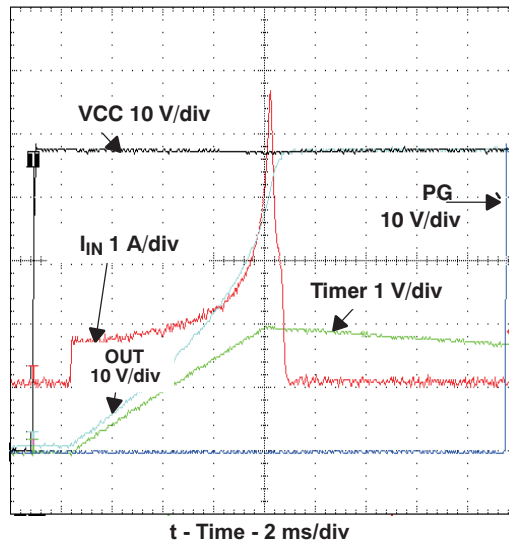
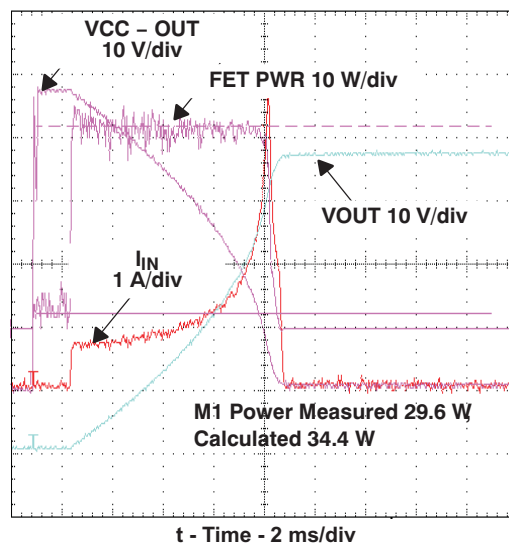
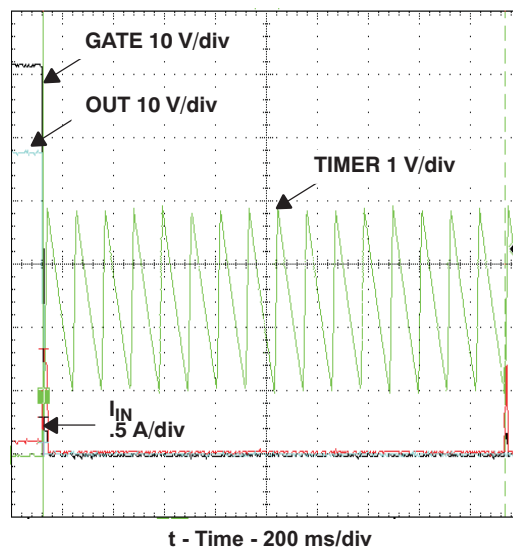

Figure 13. Basic Board Insertion
Figure 14. Computation of Q1 Stress During Startup
Figure 17. TPS2491 Restart Cycle Timing
A capacitor may be tied from PROG to ground to alter the natural constant power inrush current shape. If properly designed, the effect is to cause the leading step of current in Figure 13 to look like a ramp.
The typical application circuit, and oscilloscope plots of Figure 13 through Figure 17 demonstrate many of the functions described Device Functional Modes.
7.4.1 Board Plug-In (Figure 13)
7.4.2 TIMER and PG Operation (Figure 13)
7.4.3 Action of the Constant Power Engine (Figure 14)
The calculated power dissipated in Q1, $V_{DS} \times I_D$, is computed under the same startup conditions as Figure 13 . The current of Q1, labeled I_{IN} , initially rises to the value that satisfies the constant power engine; in this case it is $34\text{ W} \div 48\text{ V} = 0.7\text{ A}$. The 34 W value is programmed into the engine by setting the PROG voltage using Equation 2 given in the PROG. V_{DS} of Q1, which is calculated as $V_{(SENSE-OUT)}$, falls as C_O charges, thus allowing the Q1 drain current to increase. This is the result of the internal constant power engine adjusting the current limit reference to the GATE amplifier as C_O charges and V_{DS} falls. The calculated device power in Figure 14, labeled FET PWR, is seen to be flat-topped and constant within the limitations of circuit tolerance and acquisition noise. A fixed current limit is implemented by clamping the constant power engine's output to 50 mV when V_{DS} is low. This protection technique can be viewed as a specialized form of foldback limiting; the benefit over linear foldback is that it yields the maximum output current from a device over the full range of V_{DS} and still protects the device.
7.4.5 Automatic Restart (Figure 17)
A capacitor can be connected from the PROG pin to ground to reduce the initial current step seen in Figure 13 based on the Typical Application circuit. This method maintains a relatively fast turn-on time without the drawbacks of a gate-to-ground capacitor that include increased short circuit response time and less predictable gate clamping.